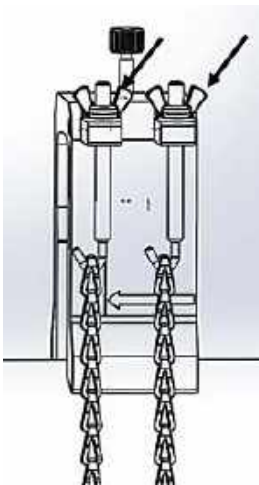

Figure 40: secure the yoke
7. Tighten the nuts to secure the yoke to the pipe (see *Figure 40* below).